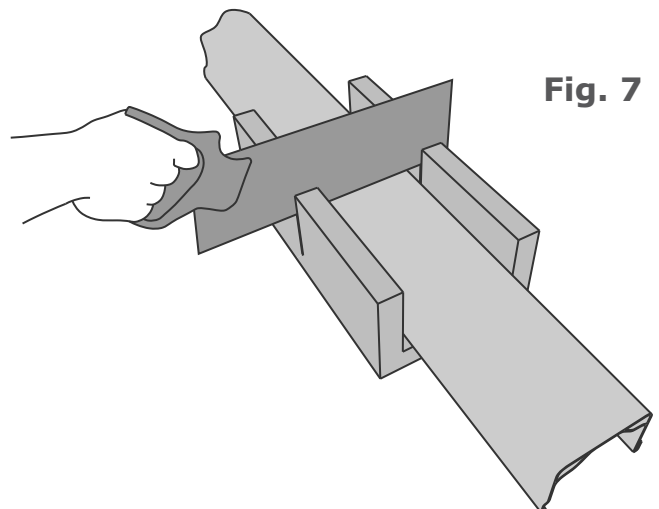

Fig. 7
5. Cut gutter lengths to size as required using a fine tooth saw and mitre box. Set the gutter, face down in the mitre box when cutting. Clean and de burr all cut ends. Fig. 7.